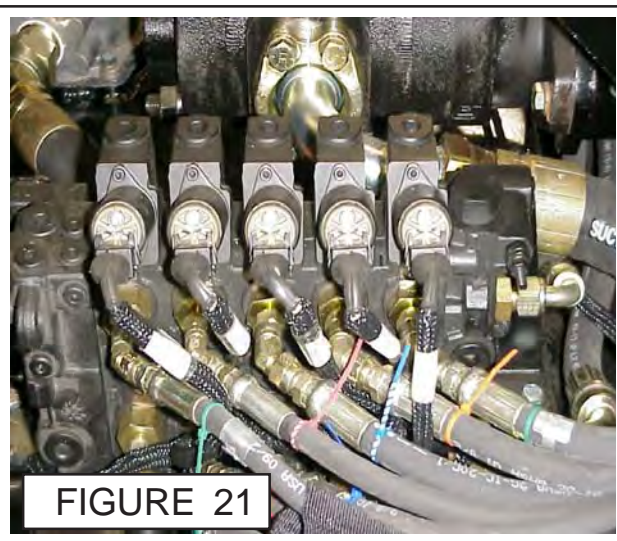

FIGURE 21
- 1. Wire Harness From Cab to Front.** The wire harness runs out the bottom of the Cab on the right hand side. Run harness along under RH cab of Tractor to the control valve (See Figure 21). Note the wire harness runs bottom of cab and near the exhaust from the Tractor to the Stack Valve to the front of the tractor. Make certain to tie the Harness or Hoses to the Tractor for protection.